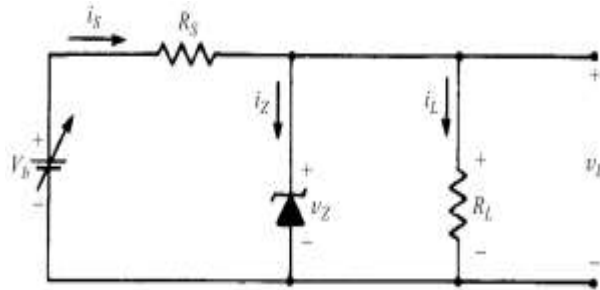

Figure 7
12. The Zener diode in the voltage-regulator circuit of figure 7 has a constant reverse breakdown voltage $V_Z = 8.2 \text{ V}$, for $75 \text{ mA} \leq i_Z \leq 1 \text{ A}$. If $R_L = 9 \Omega$, size R_S so that $v_L = V_Z$ is regulated to (maintained at) 8.2 V while V_b varies by ± 10 percent from its nominal value of 12 V .